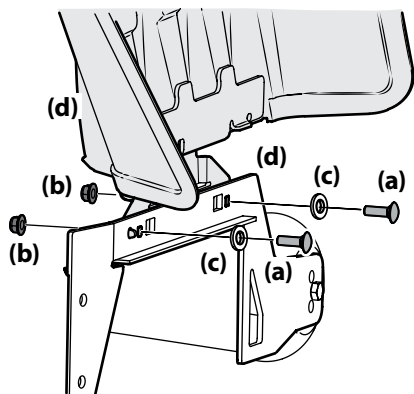

Figure 2-5
1. Remove the carriage screws (a), flange lock nuts (b) and flat washers (c) installed on the mounting bracket (d) on the deck. See Figure 2-5.
2. With the previously removed hardware, install the chute deflector on the deck as shown in Figure 2-5.